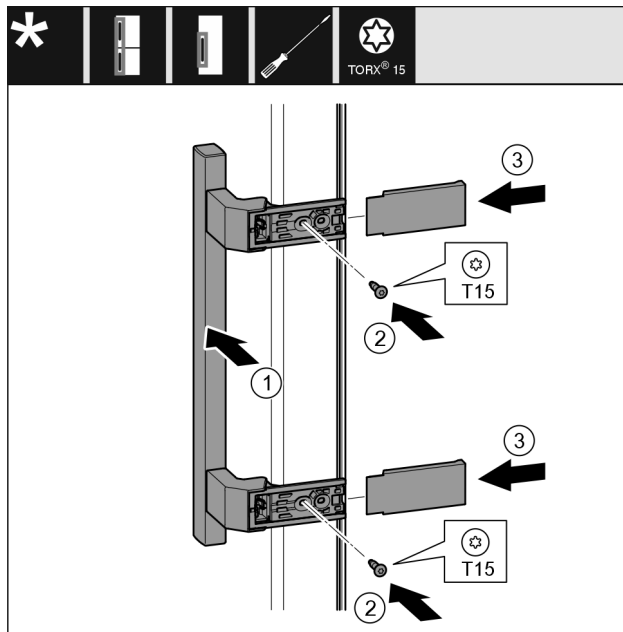

Fig. 53
- Place the handle Fig. 53 (1) on the opposite side.
- Tighten screws Fig. 53 (2) with screwdriver.
- Place the covers Fig. 53 (3) on the side and push them on.